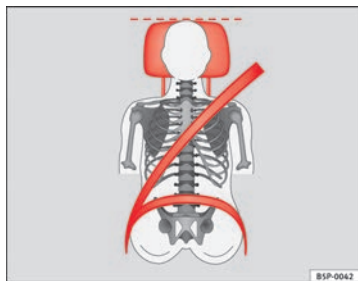
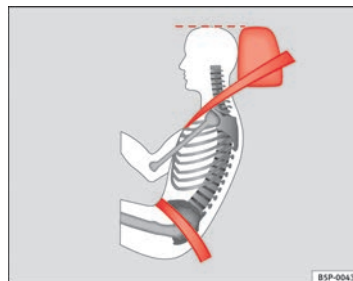

Fig. 91 Front view: head restraints and seat belts correctly adjusted
Fig. 92 Side view: head restraints and seat belts correctly adjusted
- Adjust the head restraint so that the top is at the same level as the top of your head or as close as possible to the same level as the top of your head, at least at eye level ⇒ fig. 91 and ⇒ fig. 92.